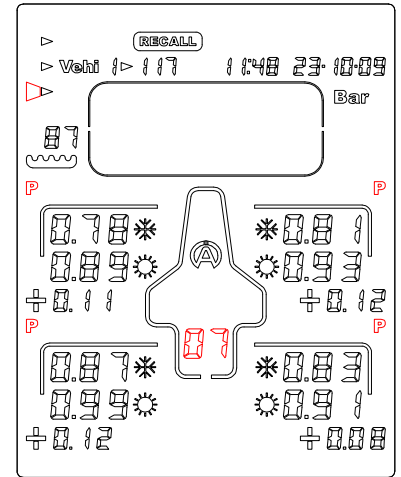

Figure 10
- 4) With the button  or , select the « **FACE** » (figure 10)
On the example « Figure 10 », the Tyrecontrol displays for the vehicle 1, the first phase of data of the last « Set » recorded, that is to say the tires pressures before  and after  race + the gaps.